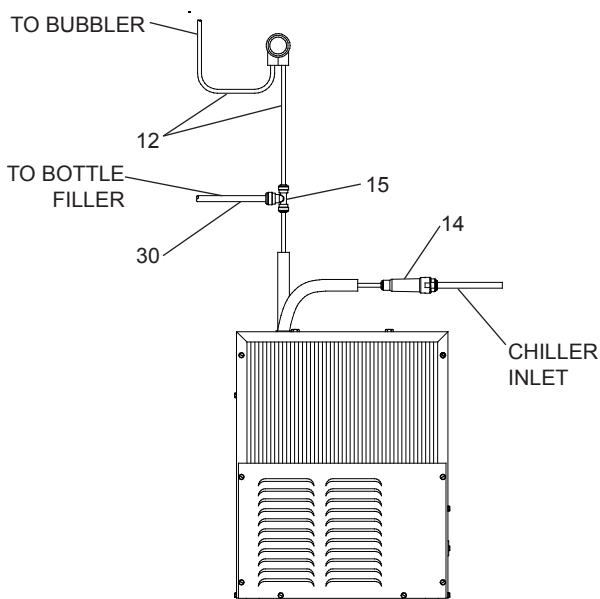

Figure 2 - EZWS-ERP Tube Routing
- 3. (For EZWS-ERPBM8K) Install the strainer** on the inlet tube of the chiller. Install 1/4" x 1/4" x 3/8" tee on outlet tube of the chiller per (Fig. 2).